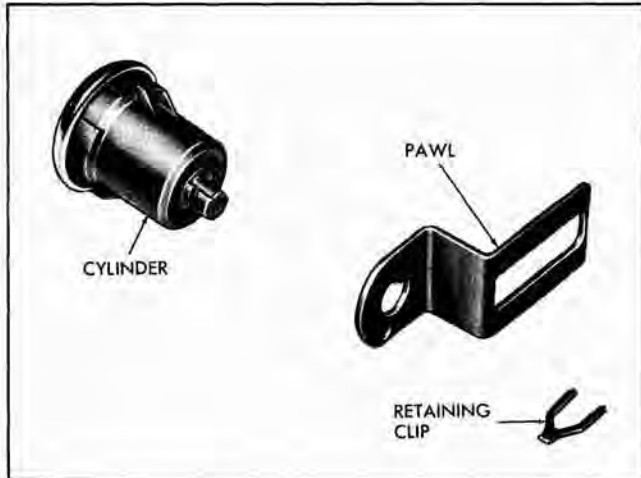

Fig. 13-24 Door Lock Cylinder
2. With a suitable tool, remove retainer and pawl (Fig. 13-24).